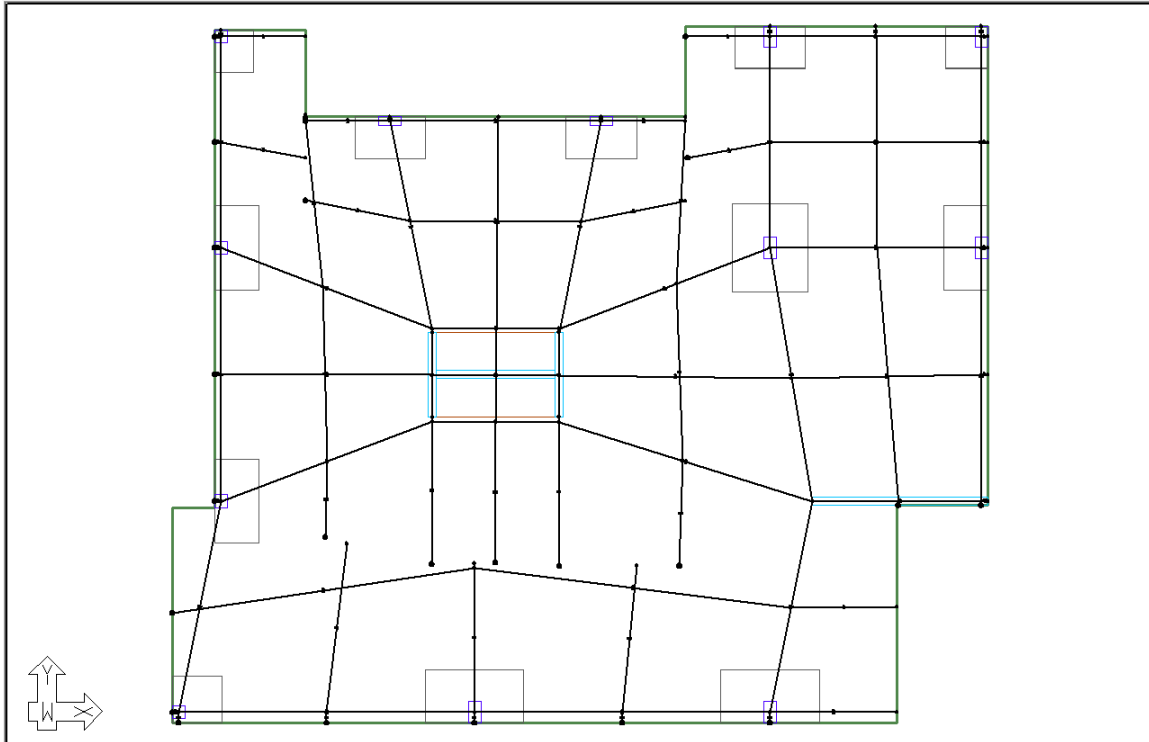

FIGURE 10-14
- Click **Close** on the *Support Line Dynamic Editor*. The user should now see the middle strips created on the plan with the column strips in black as shown in **FIGURE 10-14**.